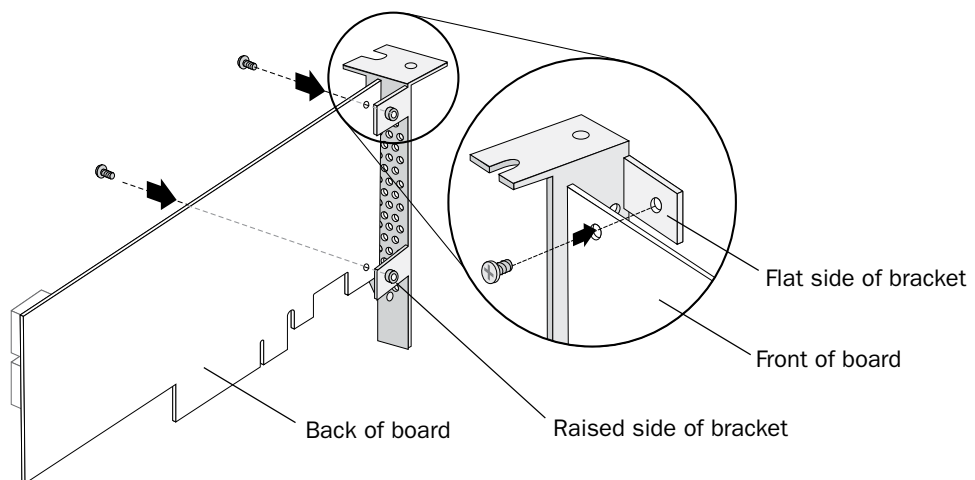

Figure 3
- 2 Attach the low-profile bracket to the controller board. The low-profile bracket is installed on the *back* side of the controller, with the mounting screws inserted from the front of the controller, as shown the Figure 3.
⚠ Caution: The mount points on the low-profile bracket have a smooth or flat side and a raised side that looks like a spacer (see Figure 3). Be sure to install the bracket with the flat side against the controller PCB and the raised side facing away from the PCB.